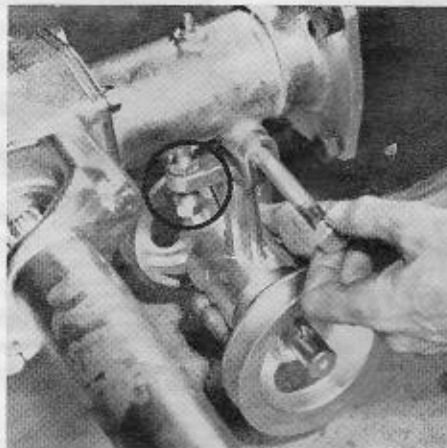

Figure 13
The first step in attaching the 25-inch Gang Units to the 30-inch Reel Mower is to attach the Power Take-off to the Swivel Casting (of the Drive Assembly) as shown in Figure 13.
**BELTS.** Belt tension is adjusted by the Belt Adjusting Screw and lock nut, circled in Figure 13. To increase tension, loosen the Lock Nut and turn the Adjusting Screw clockwise; to decrease